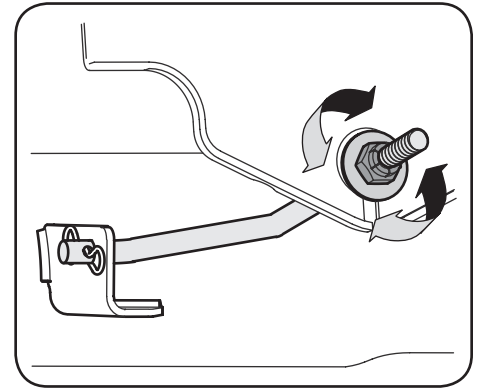

Figure 4-6
3. Locate the jam nut and lock nut on the front side of the stabilizer bracket. See Figure 4-6